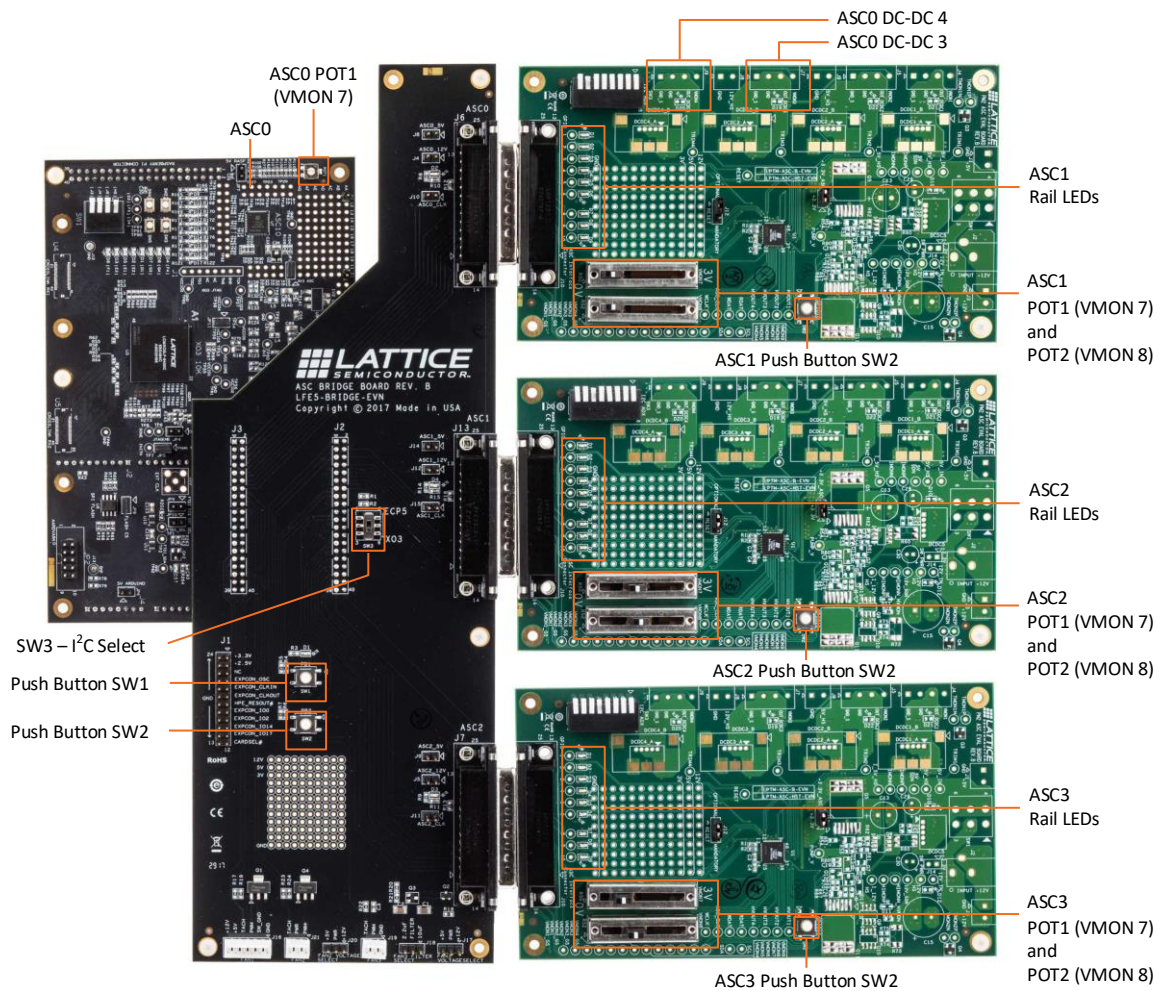

Figure 2.1. MachXO3-9400 Evaluation Board Connected to the Three ASC Breakout Boards
4. Connect the ASC Breakout Board(s) using J6, J7 and J13 as shown in Figure 2.1. The number of ASC Breakout Boards to install is based on the design requirement.